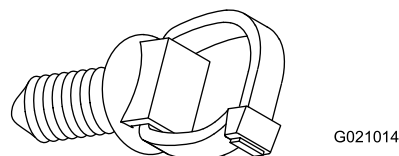

Figure 2
1. Push the pre-installed fir-tree mount (Figure 2) on the short branch (with the yellow wire) of the wire harness into the hole closest to the machine, in the left light bracket (Figure 3).